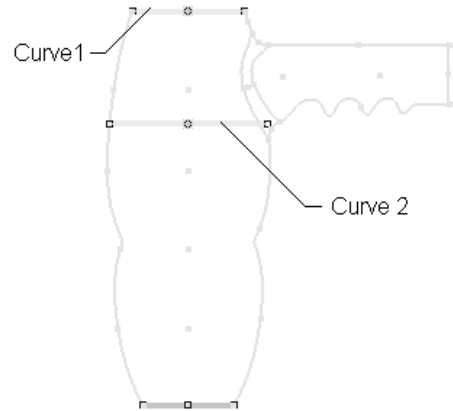

Figure 11-85 Curves selected as constraints
4. Select the curves, as shown in Figure 11-85; the **Accept Constraints** button is activated.